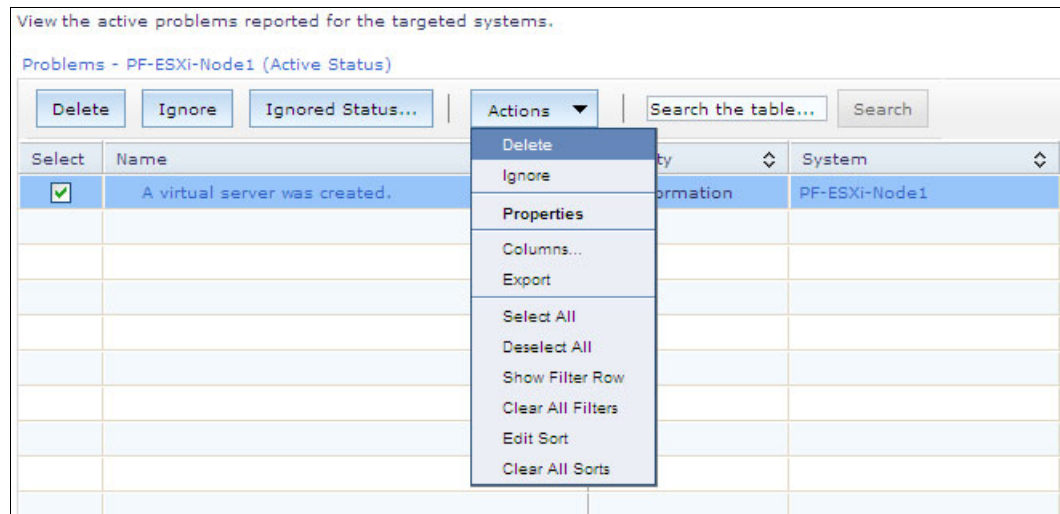

Figure 11-18 Delete menu item for selected event in the Problems window
18. If you need to delete the informational event, select it and click **Actions** → **Delete**, as shown in Figure 11-18.